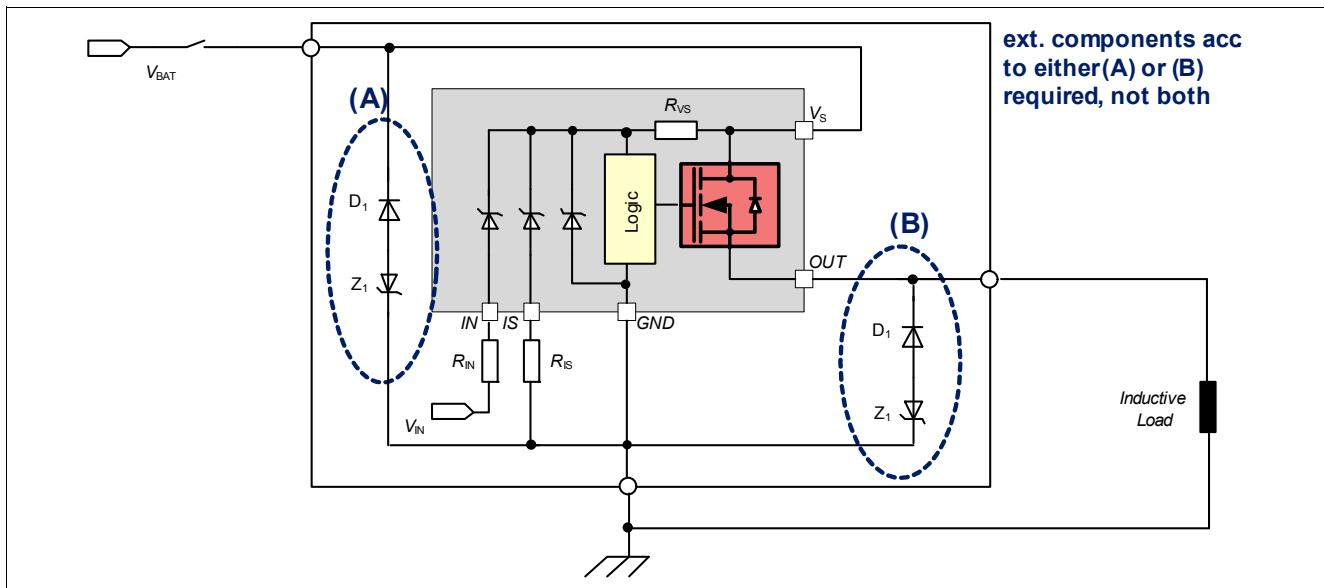
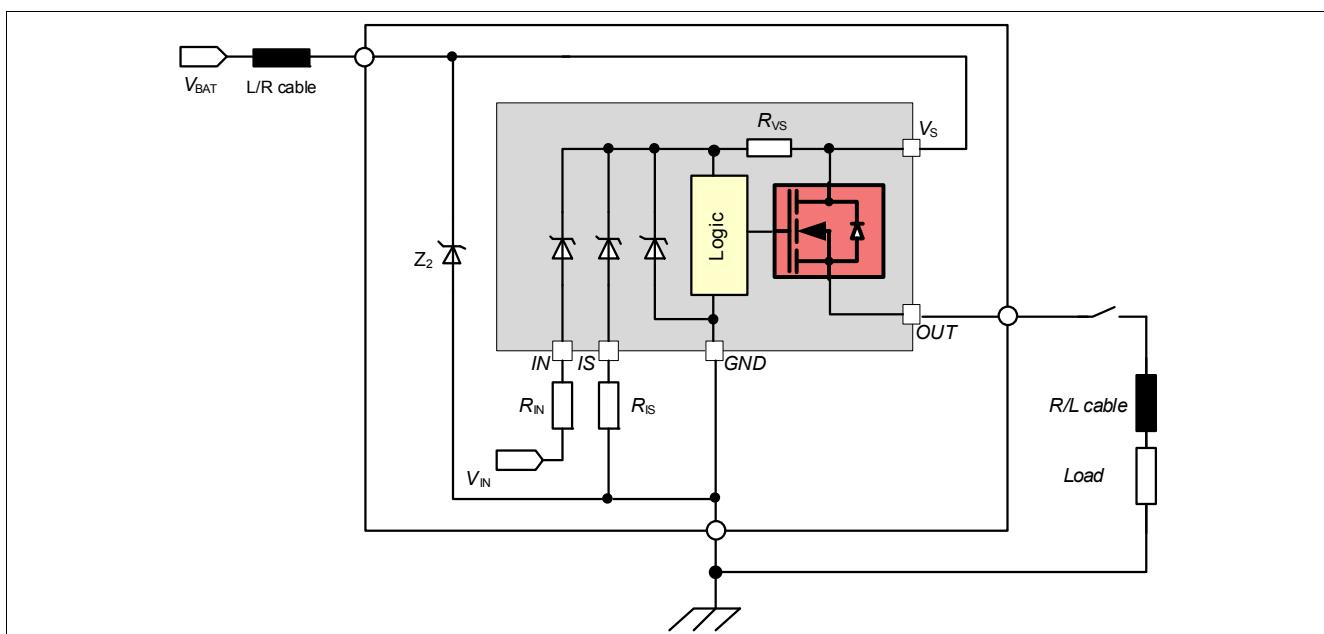

Figure 18 Loss of V_S
Figure 19 Loss of Load
In case of loss of V_S connection with charged inductive loads, a current path with sufficient load current capability has to be provided, to demagnetize the charged inductances. It is recommended to protect the device using a Zener diode together with a diode ($V_{Z1} + V_{D1} < 16$ V), with path (A) or path (B) as shown in Figure 18.
For higher clamp voltages, currents through all pins have to be limited according to the maximum ratings. Please see Figure 18 and Figure 19 for details.